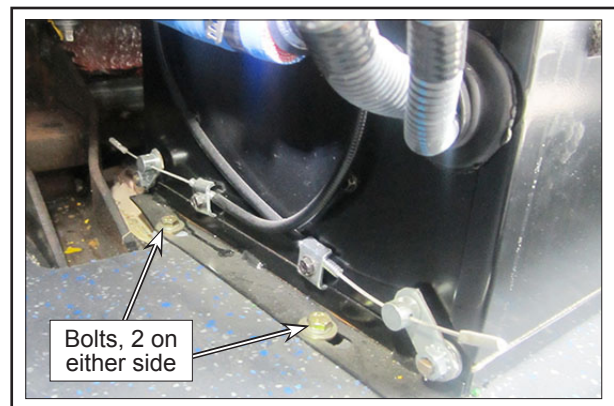

Figure 9 - Heater
- 2.7. Loosen the four bolts at the bottom of the heater (to avoid damaging the seal at the back). See Figure 9.